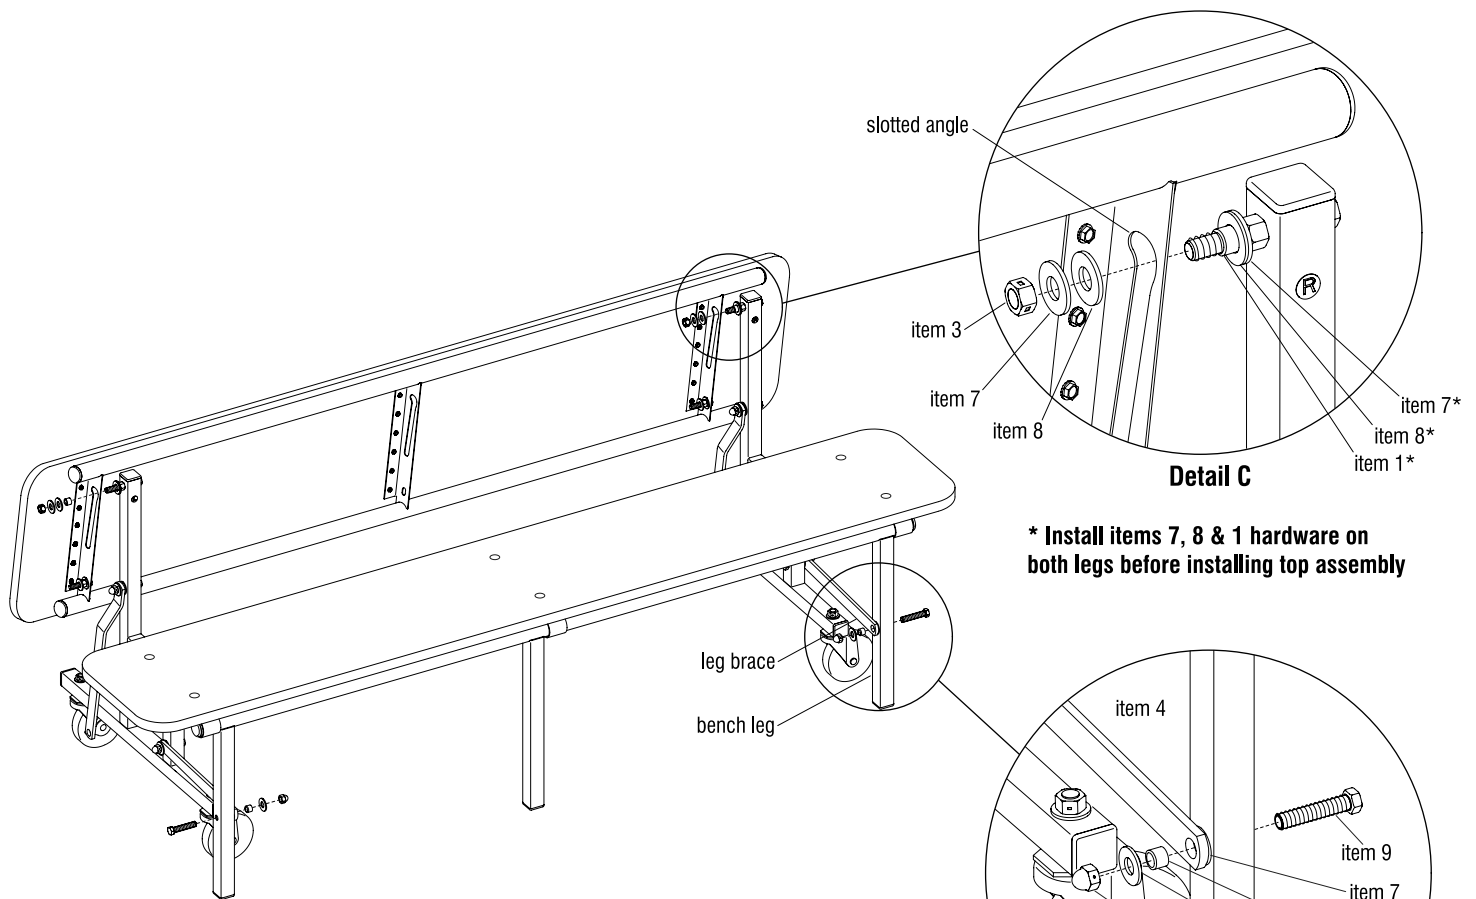

Figure 2 - Braces to Top, Legs & Bench Assembly
5. Align item 9 screws with holes and attach bench assembly with 1/4" flat washers (item 6) and 1/4-20 nylon lock nuts (item 2) (Figure 2 & Detail B).
1. Install leg braces to bench legs using hardware installed in sequence shown (Figure 2 & Detail B).
2. At top of leg uprights, install 3/8" flat washer (item 7), 1/2" nylon washer (item 8) and 3/8" steel spacer (item 1) onto leg bolts in sequence shown (Detail C).
4. Install 1/2" nylon washer (item 8), 3/8" flat washer (item 7) and 3/8"-16 nylon lock nut (item 3) onto bolts, and steel spacer (item 1), then tighten (Detail C).